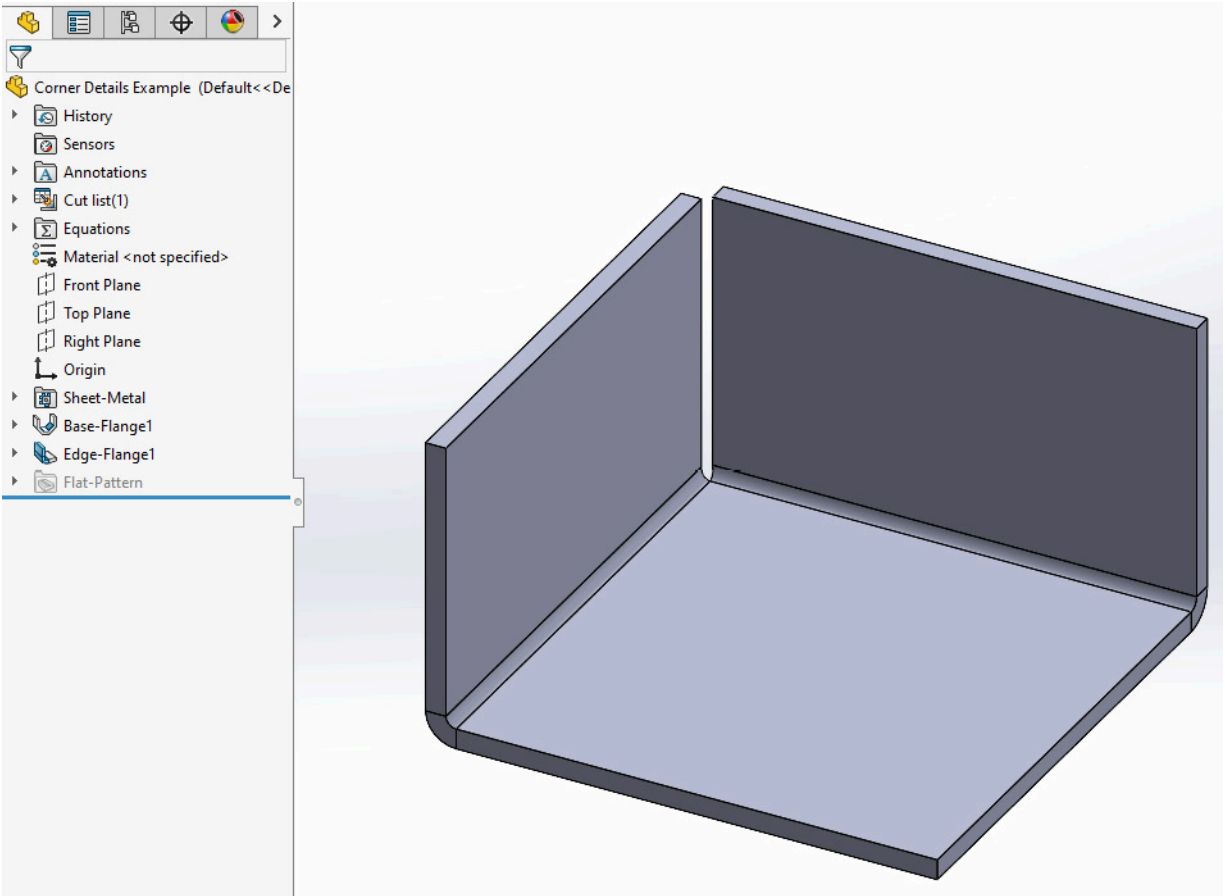

Figure 9.1: Creating a Base Flange with two adjacent Edge Flanges
2. Add two **Edge Flanges** to any of the adjacent edges (*Figure 9.1*). Make these **30mm** high and at a **90°** angle.